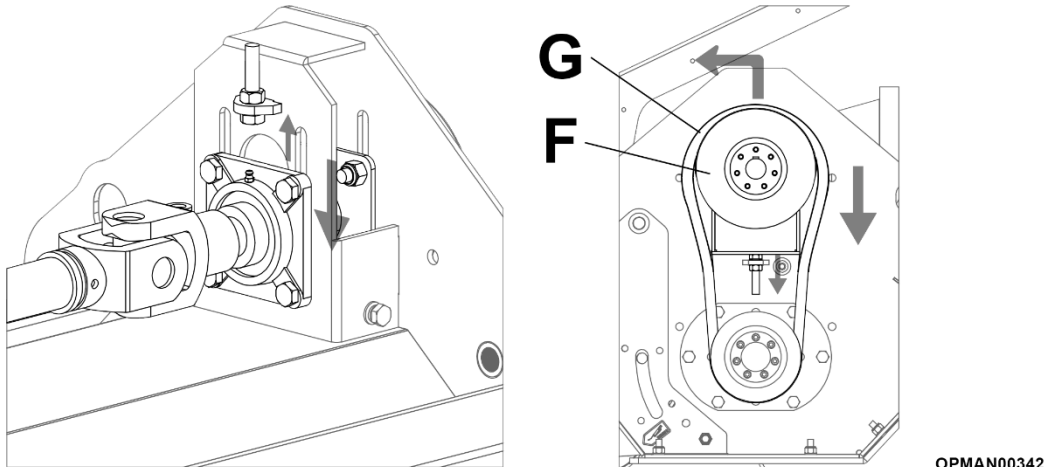

Figure 5.48 – Secondary Belt Replacement
The aim is to make the upper pulley (F) fall down, so the belt (G) can easily be slipped on/off; see Figure 5.48.